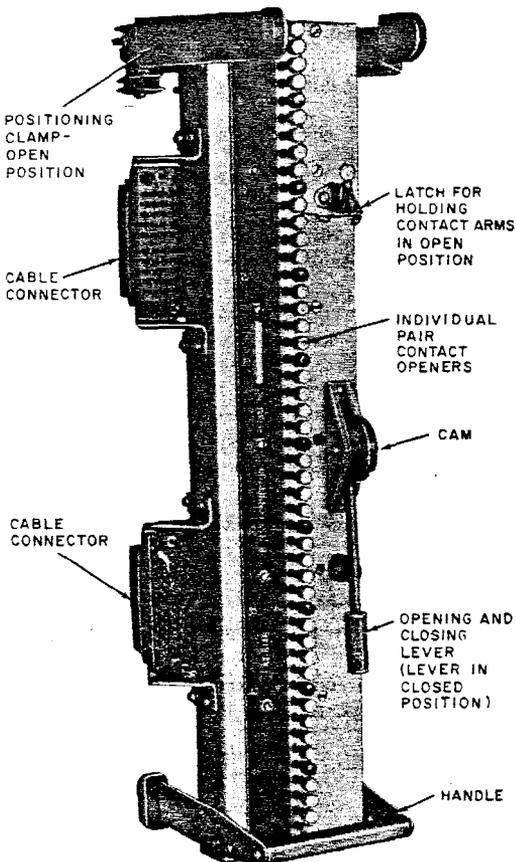

Fig. 1—B Test Connector—Front View
2.01 The front and back views of the B test connector are shown in Fig. 1 and 2. The connector consists of a U-shaped main support, a cam, a lever which actuates a hinged plate, and 50 pushrods that press on the arms of contact supports. The contact supports are pulled together by extension coil springs, which cause the contacts to press firmly against the springs on the cable side of a protector mounting.